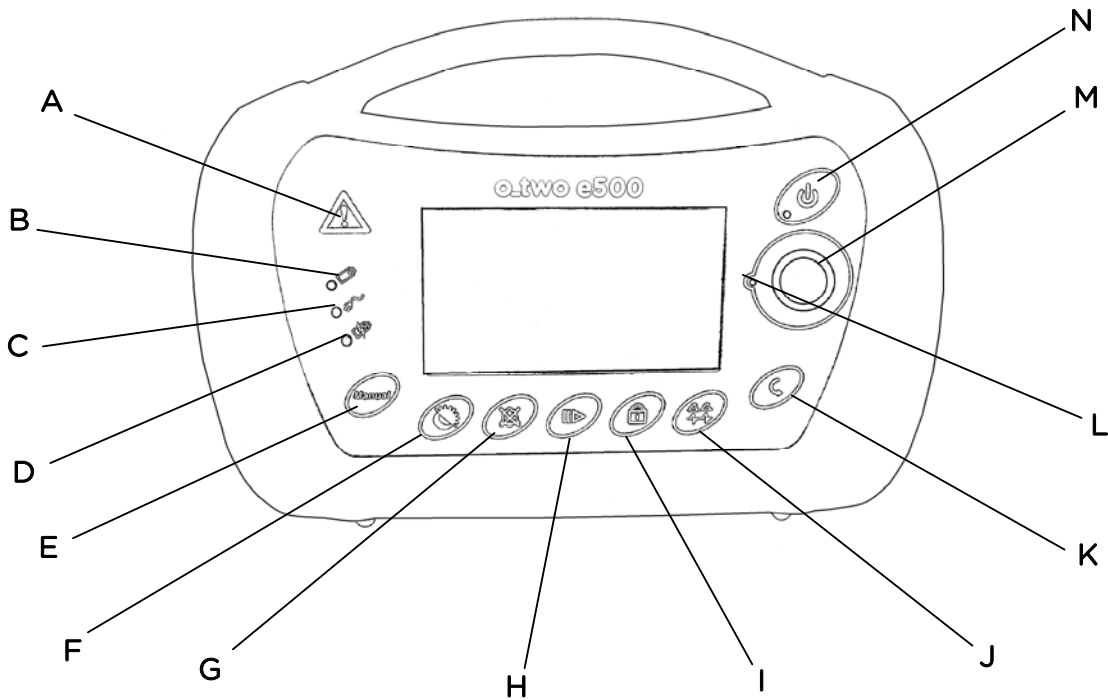

Figure 1
While all ventilation parameter settings are controlled by the Control Selection Knob (M) in Figure 1, there are a number of key membrane buttons which control additional ventilator functions:
To turn on the ventilator, Press the ON/OFF button (N) in Figure 1 for one second, during that second the associated green LED will start flashing at a high frequency. After 1 second the ventilator will turn on but without ventilation until the appropriate tidal volume/frequency combination is selected from the dial. If the button is pressed and released for less than a second, the ventilator will remain OFF.
The Control Selection Knob (M) in Figure 1 is used to navigate between parameters, change modes, select primary function change when rotated, and to confirm function changes when pressed.
- 1- Press Lock button (I) in Figure 1. The Lock symbol will be displayed on the screen.
- 2- To cancel the Lock function, press the Lock button (I) again.
Alarm Silence button (G) in Figure 1 will silence audible alarms for 120 seconds. It can also be selected when there is no alarm in order to silence potential alarms. This function is activated or deactivated by pressing the Alarm Silence button once.
Pressing Waveform selection button (J) in figure 1 will switch between the pressure and volume ventilation waveforms displayed on the screen.
The Cancel button (K) in Figure 1 allows the operator to return to the previous settings if the last unconfirmed changes in settings are not required.
During activation of the Pause/ Resume button (H) in Figure 1, the ventilator will stop ventilating with all buttons kept active (if they are not locked) except Manual/ Hold button.
- a. During Pause, there will be an audible alarm associated with the flashing yellow Warning indicator (A) in Figure 1 every 15 seconds. Users can press Alarm Silence button to disable the audible alarm for 2 minutes but the yellow Warning indicator will continue flashing every 15 seconds.
4. To cancel Pause function, press Pause/ Resume button (H) again. The "Resume" symbol will flash on the screen with the confirmation symbol  and the Confirmation indicator (L) to guide users to resume ventilation by pressing the Control Selection Knob (M).
During exhalation phase, if Manual/ Hold button (E) in Figure 1 is pressed, a mandatory breath will be initiated and either the flow rate or set pressure control parameter will be delivered as long as the Manual/ Hold button is pressed or until I-time setting is achieved.